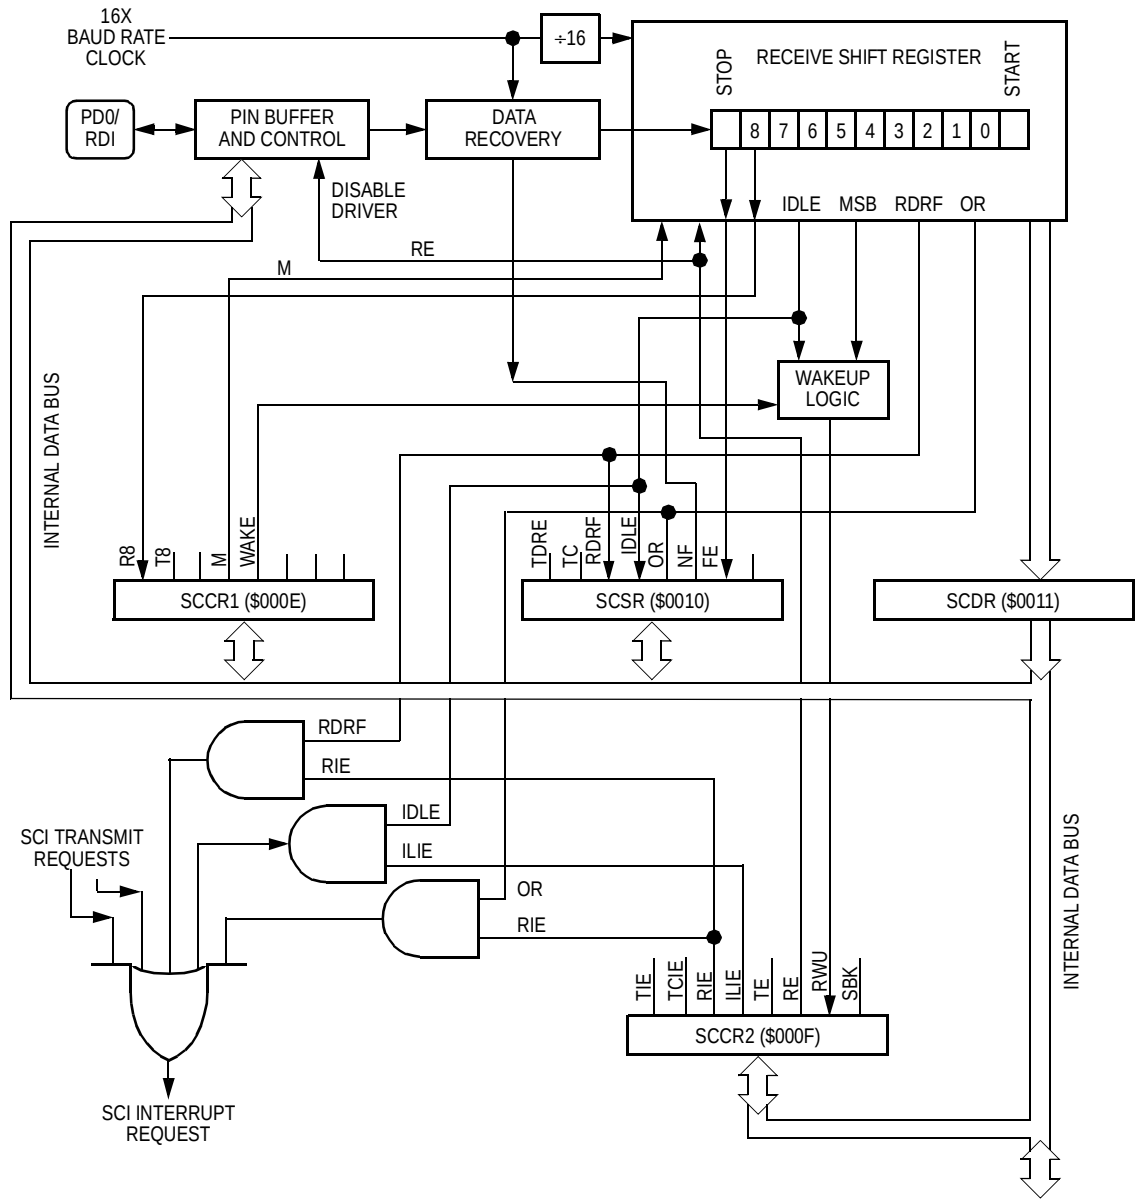

**Figure 10-4. SCI Receiver**
**Figure 10-4** shows the structure of the SCI receiver. Refer to **Figure 10-3** for a summary of the SCI receiver I/O registers.